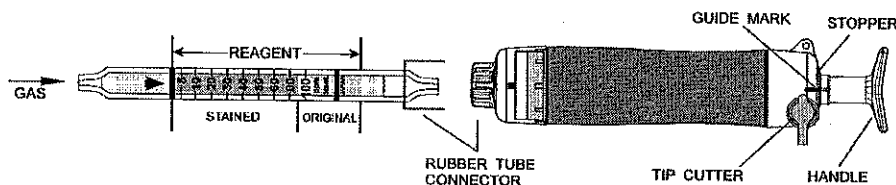

Fig.1
- ① Break both ends of the detector tube.
- ② Insert the detector tube into the aspirating pump securely as shown in Fig.1. (Arrow mark shall point to the pump.)
- ③ Align the guide marks on the shaft and stopper of the aspirating pump.
- ④ Pull the pump handle at a full stroke until it locks and wait for 1.5 minutes or until the completion of sampling is confirmed with the flow indicator of the pump (See descriptions about the flow indicator in the instruction manual of the pump).
- ⑤ Push back the handle without removing the detector tube from the rubber tube connector, so that air in the pump will be discharged perfectly. Then repeat the step ③~④ twice again.
- ⑥ On completion of sampling, read the scale at the maximum point of the stained layer.